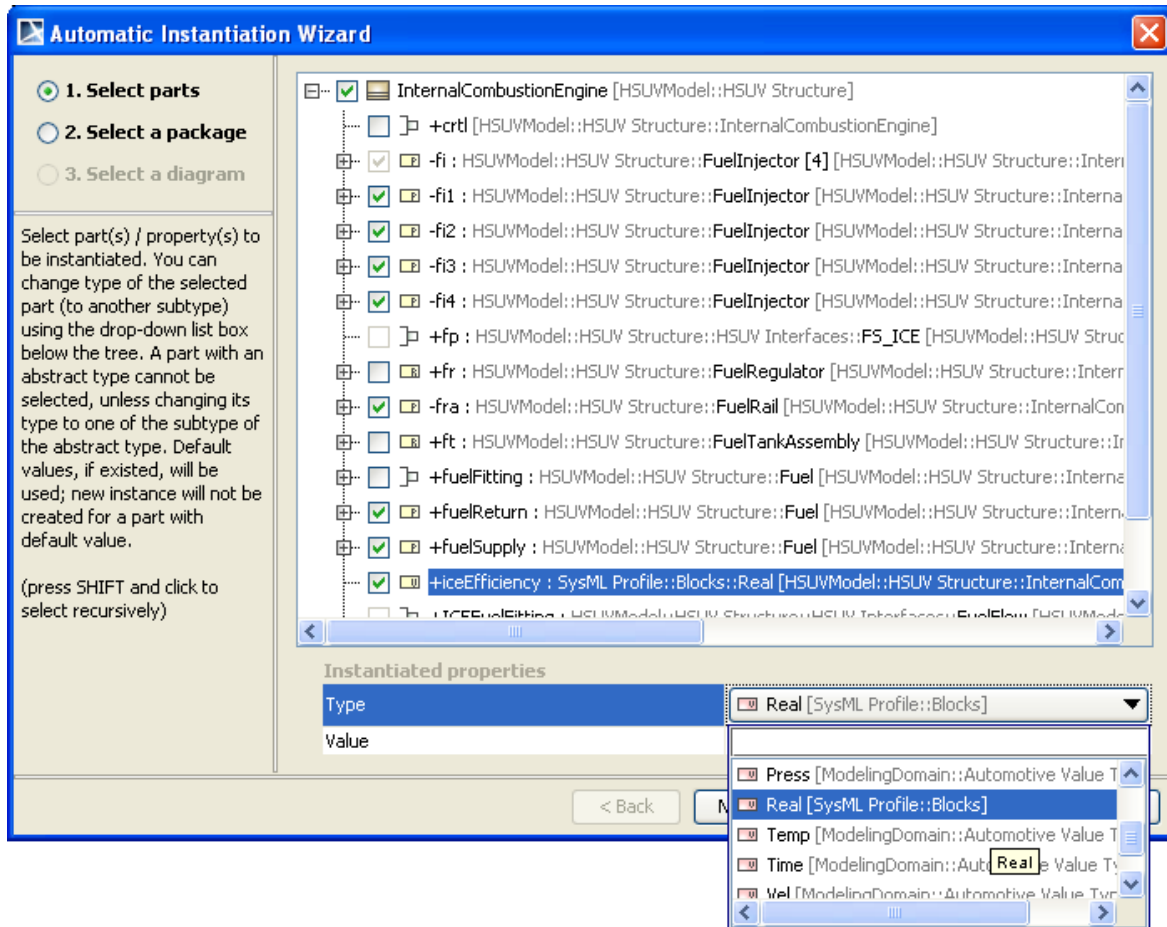

Figure 28 -- Selecting Type to Instantiate
4. You can change the instance specification type to be created for any selected property by changing the Type property in the Instantiated properties table. Generally, the possible classifiers are subtypes of the type of that particular property, unless the type is an Interface. If the type is an Interface, the options in the drop-down list will be elements which realize the Interface (Figure 28).